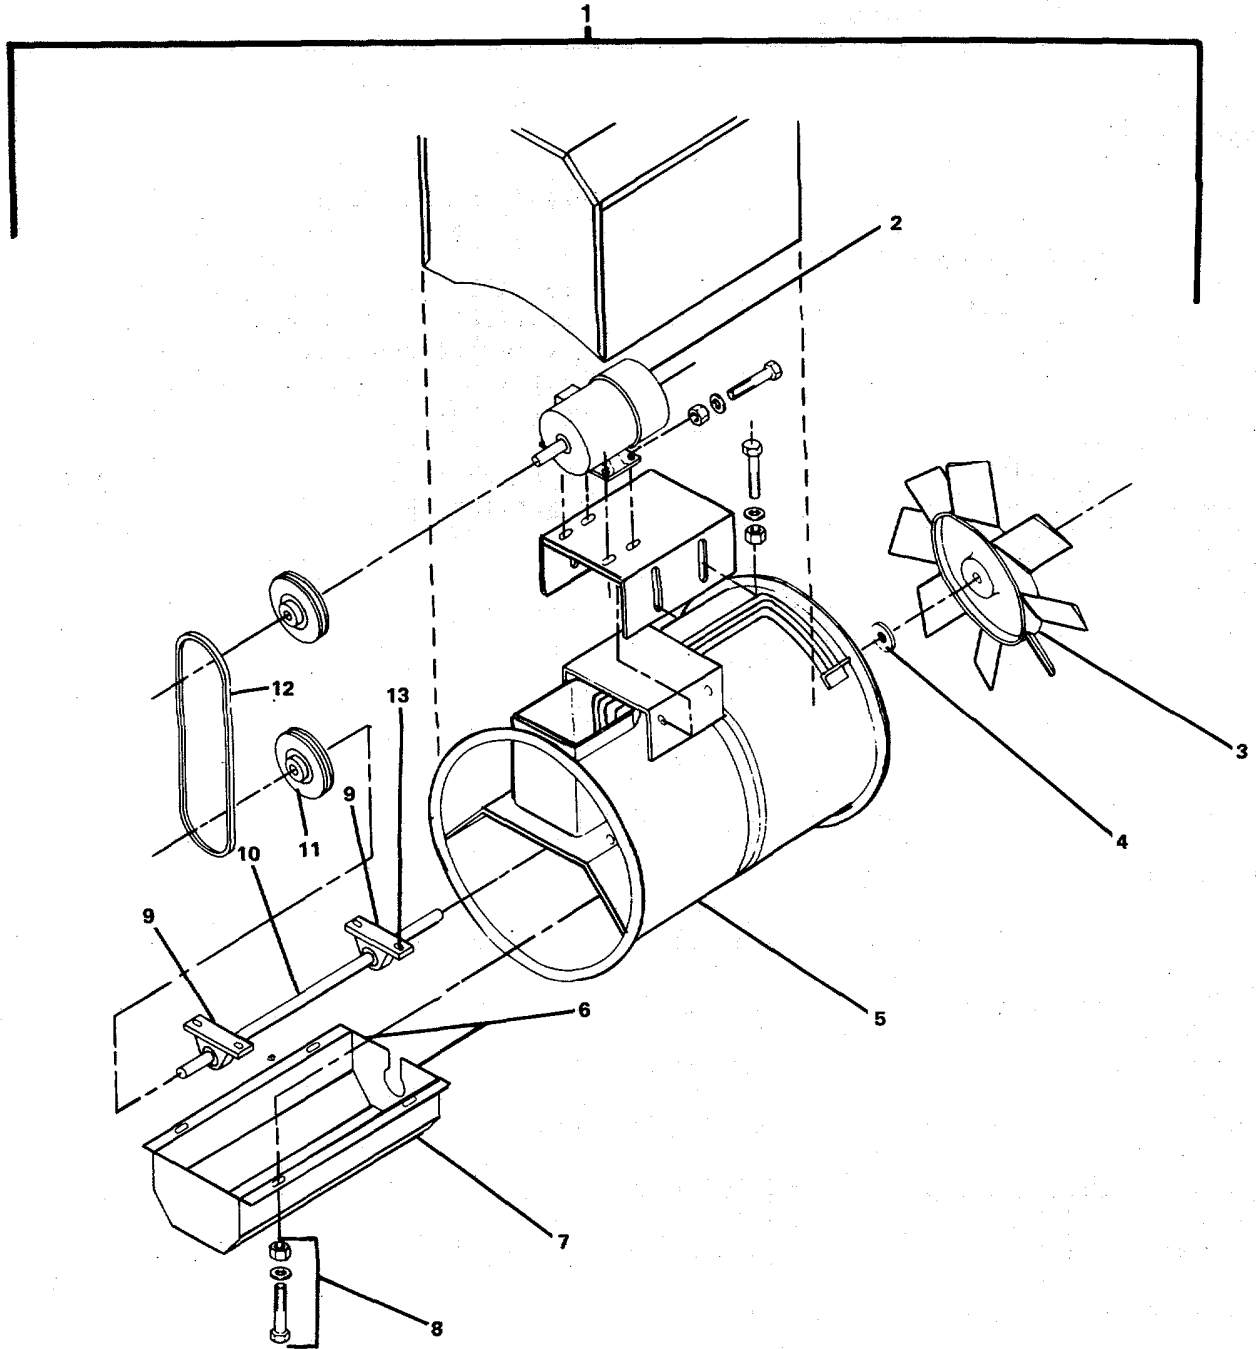

Figure 3-13. Ventilating Fan (Supply Fan #6) .
**3-22. Repair Fan, Ventilating (Supply Fan #6). (FIGURE 3-13)**